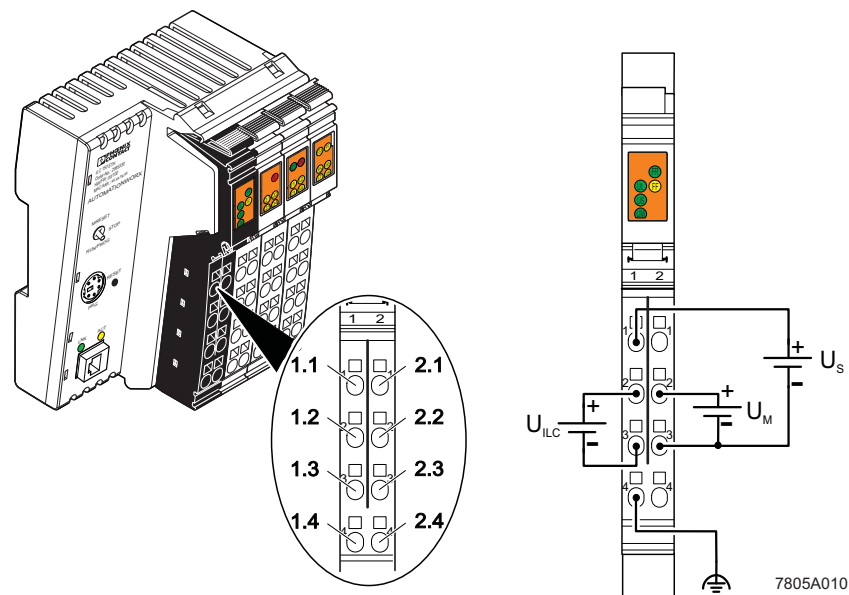

Figure 2-22 Supply voltage connection
1. Connect the power supplies to the connector for power supply as shown in Figure 2-22.
1. You can provide the segment voltage separately at the terminal points 1.1 and 2.3 (GND) (see Figure 2-22 on page 2-27).